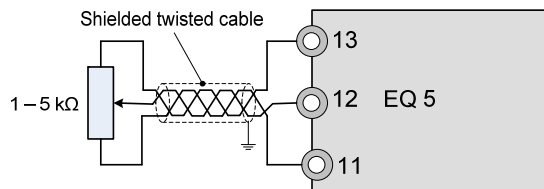

Fig. 2-3-8 Shielding
a. These terminals receive analog signals that may be affected by external noise. The cables should be as short as possible (66ft /20m or less), be shielded twisted cable, and must be properly grounded. If the cables are affected by externally induced noise, the shielding effect may be improved by connecting the shield to terminal [11]. (see Fig. 2-3-8)